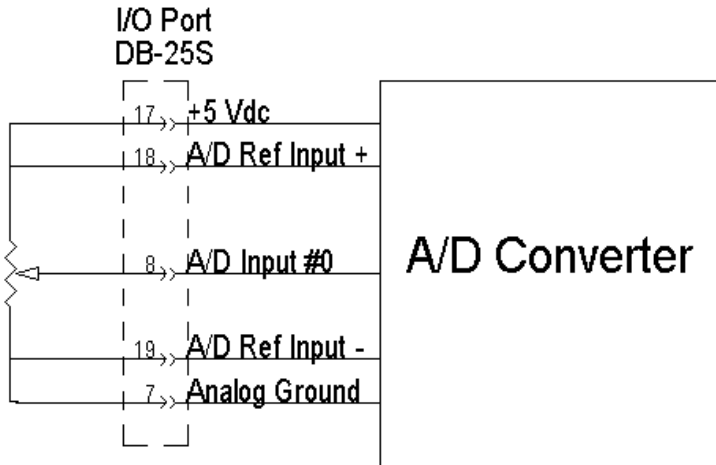

Figure 1.3 - A/D with Variable Resistor
- Connect a \emptyset to 5V DC analog device to A/D input #0, or you can connect a variable resistor as shown in Figure 1.3. The variable resistor must be greater than 1k Ohms to limit the output current to 5mA.
- Connect A/D Ref Input- to analog ground (See Figure 1.3).